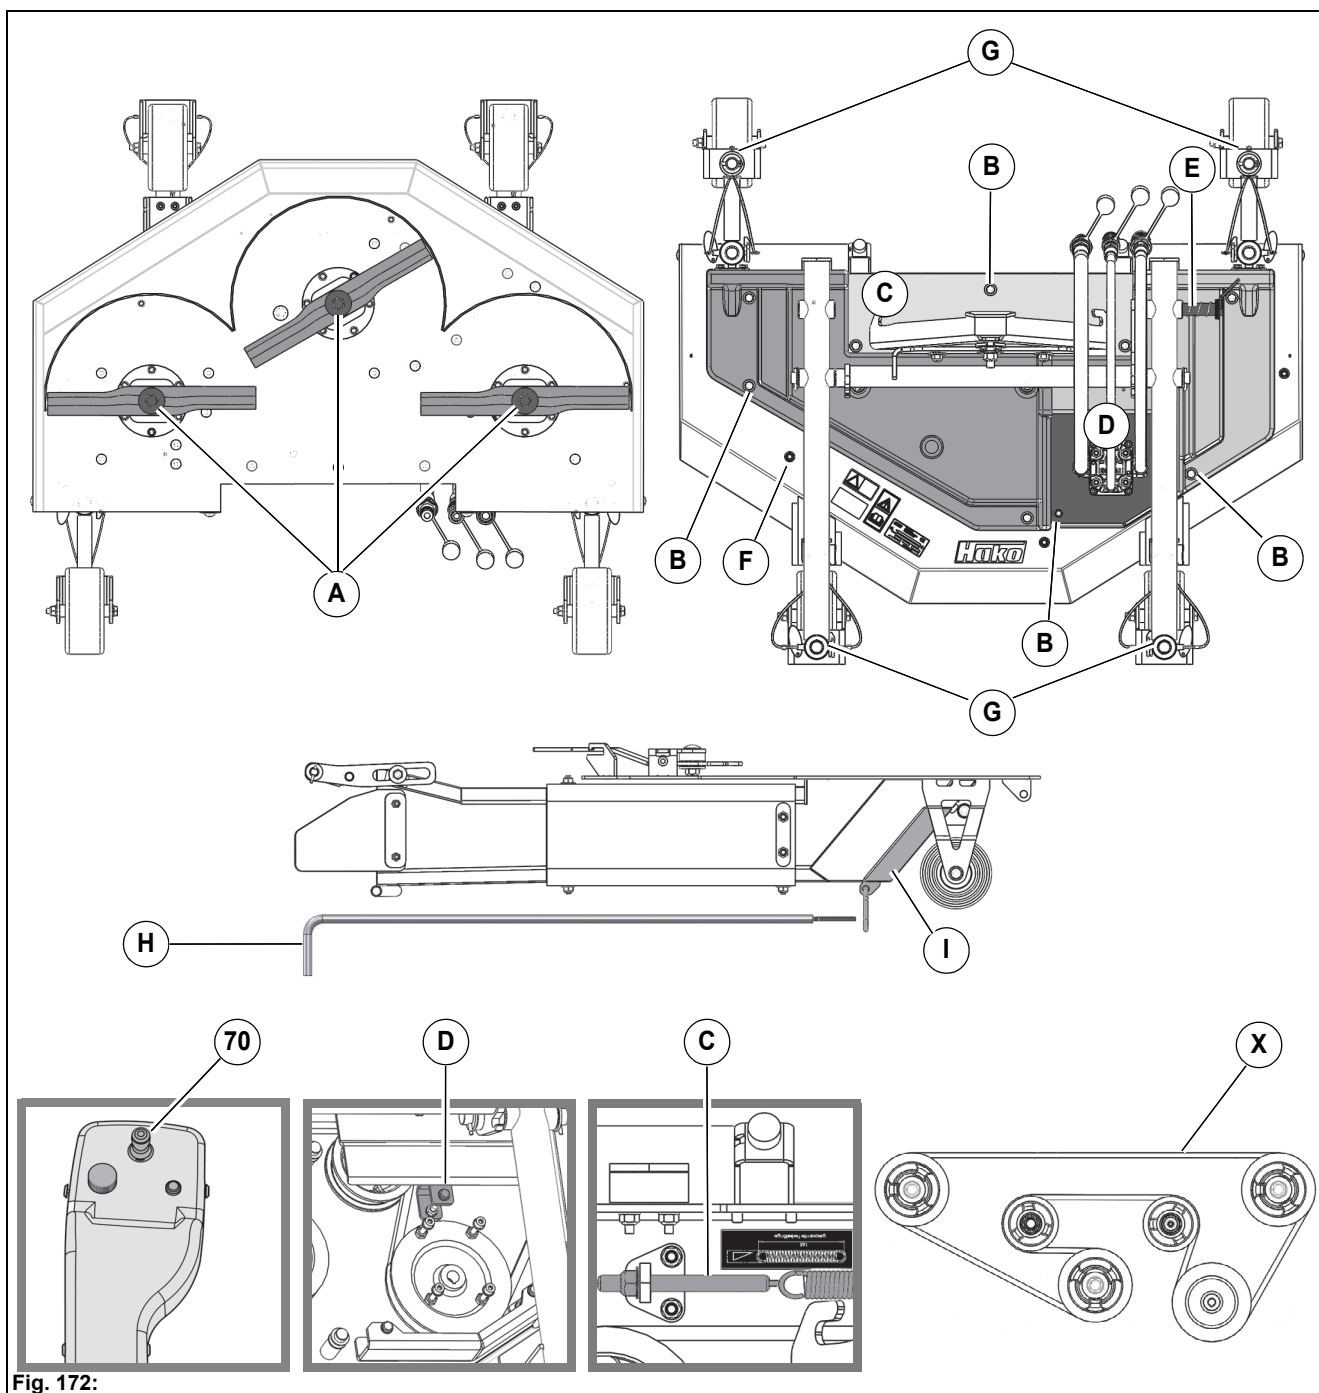

Fig. 172:
2. Loosen the screw **Fig. 172-A** and take off the disk and mowing blade.
2. Loosen the screws on the covers **Fig. 172-B** and remove the covers.
3. Relax the tension spring with the screw **Fig. 172-C** and unhook it.
4. Remove the screws of the gearbox holder **Fig. 172-D** and remove the defective V-belt.
5. Insert the new V-belt corresponding to **Fig. 172-X**.
2. Bring the mower into the cleaning position with the mounting bolt **Fig. 172-E**.
4. Plug the water hose onto the three hose couplings **Fig. 172-F** one after the other and clean with a water hose. Let the mower run for one to two minutes for this.
3. Open the flap **Fig. 172-I** with the lance **Fig. 172-H**. Let the suction fan run for one to two minutes.
- Bushes of the wheel holders **Fig. 172-G** (4 pieces)